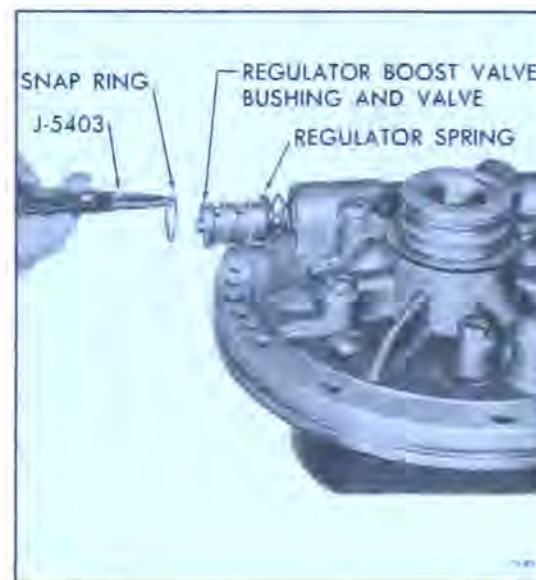

Figure 74-615
2. Compress the regulator boost valve bushing against the pressure regulator spring and remove the snap ring, using J-5403 pliers. See Figure 74-615.